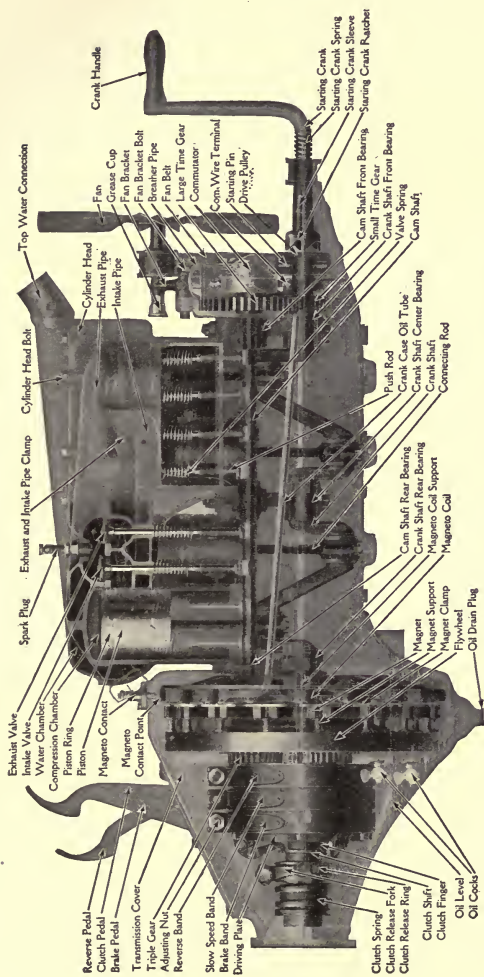

FIG. 119.—Splash lubricating system of Ford engine.
80. Splash System of Engine Lubrication.—The splash system is used in the Ford engine, as shown in Fig. 119. The oil is poured directly into the crank case until it comes above the lower oil cock. The level of the oil should be maintained somewhere between the two oil cocks. The flywheel runs in the oil and picks up some of it and throws it off by centrifugal force; some of the oil is caught in a tube and carried to the front end of the crank case where it lubricates the timing gears. As the oil flows back to the rear part of the crank case, it fills the small wells in the crank case under each connecting rod. As the connecting rod comes around, a small spoon or dipper on the bottom scoops up the oil, so that there is a regular shower of oil all the time. The pistons, cylinder walls, and bearings are lubricated in this manner and the oil is kept in continuous circulation. All parts of the clutch and transmission are lubricated in the same manner as the engine.